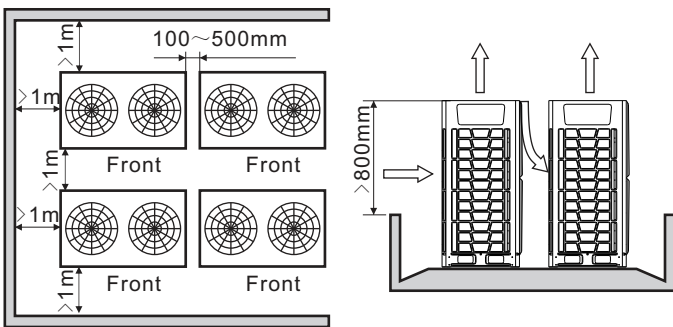

Fig. 3.12 2 rows
4) When outdoor units are higher than surrounding barriers and they will be arranged in 2 rows, please see Fig.3.12.